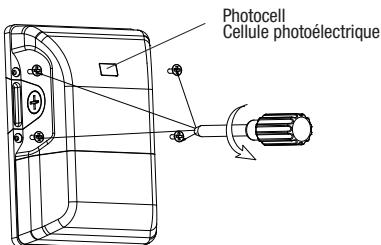

Fig. 1B
1. Unscrew the four screws (Fig. 1B).